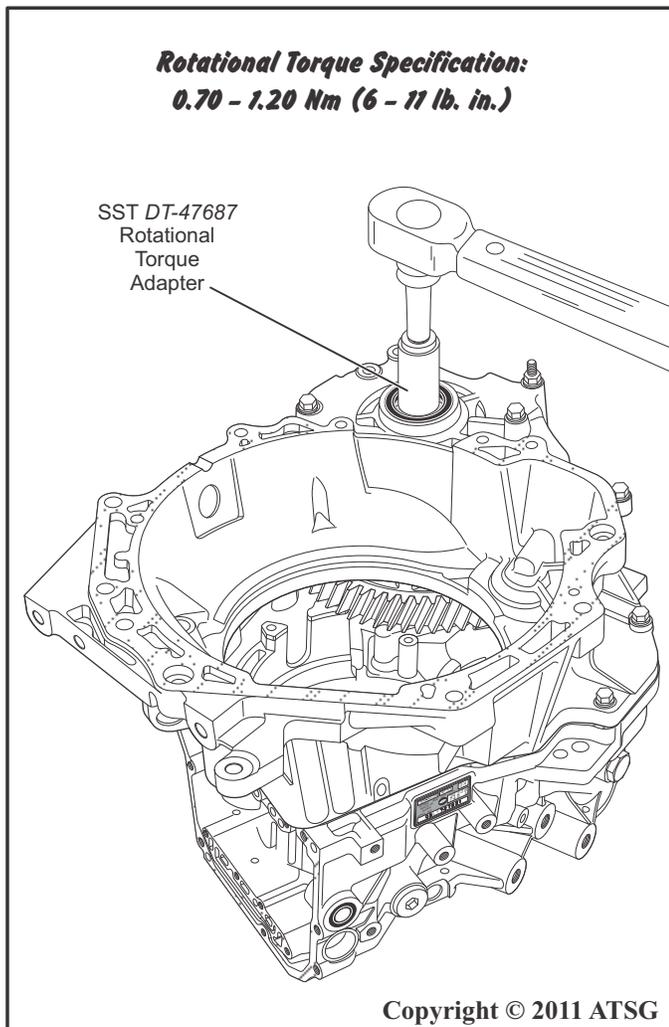

Figure 83
4. Using SST DT-47687 or other similar rotational torque adapter tool insert the tool into the axle shaft opening in the converter housing and turn the adapter so it engages the differential pinion cross shaft as shown in Figure 83.